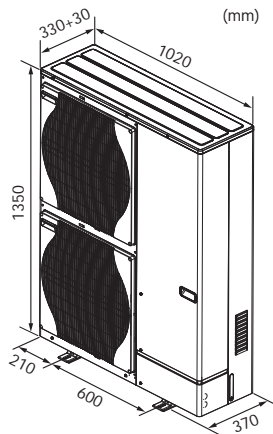

Fig. 2-2
2.2. Outline dimensions (Outdoor unit) (Fig. 2-2)